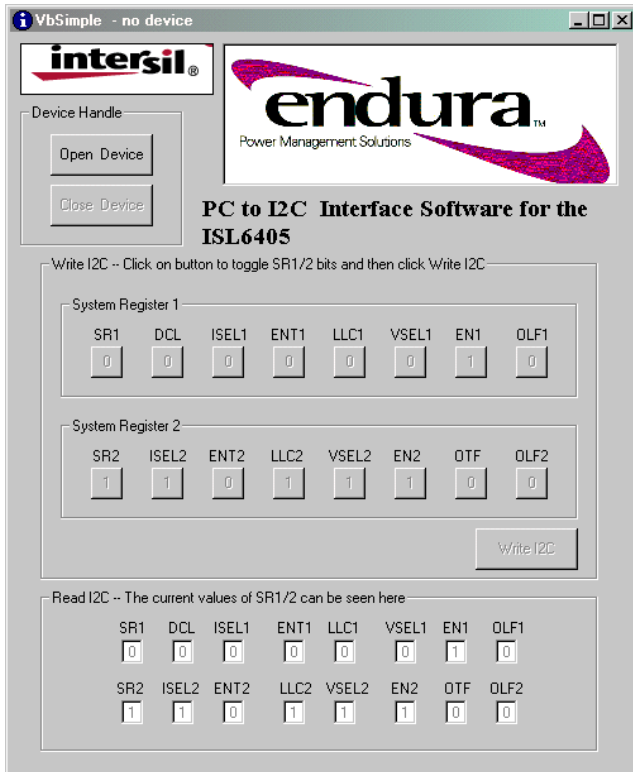

FIGURE 4. PC TO I2C APPLICATION WINDOW
9. Run the ISL6405i2crevb.exe program copied to C:\some directory'. Figure 4 shows the PC to I2C software application window. Click the 'Open Device' button.